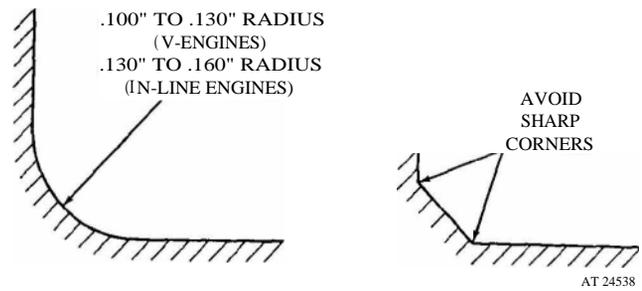

Figure 9. Crankshaft journal fillets.
5. When regrinding crankshafts, all journal fillets on the In-line crankshafts must have a .130" to .160" radius between the crank cheek and the crank journal, see figure 9. The fillets must not have any sharp grind marks, and must blend smoothly into the journal and cheek, and be free of scratches.
8. If thrust surfaces of the crankshaft are worn or ridged excessively, they also must be ground undersize. See Section 1.3.4 for the installation of oversize thrust washers. When the thrust surfaces of the crankshaft are ground undersize, special care must be taken to leave a .130" to .160" radius on the In-line engine crankshaft, between the thrust surfaces and the bearing journal (fig. 9). This radius may be checked with a fillet gage.